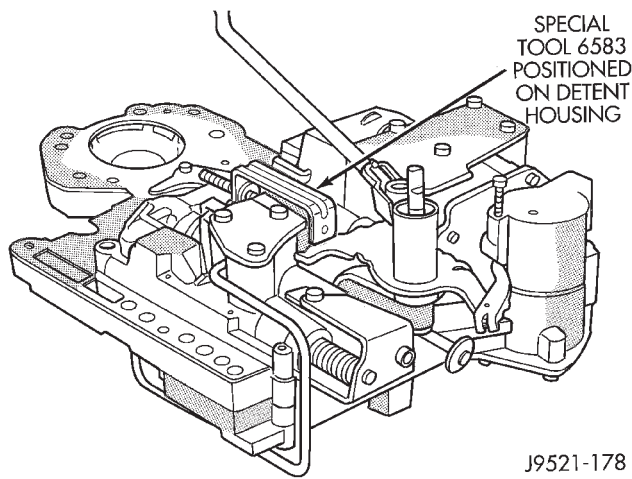

Fig. 54 Detent Ball And Spring
(14) Secure detent ball and spring with Retainer Tool 6583 (Fig. 54).